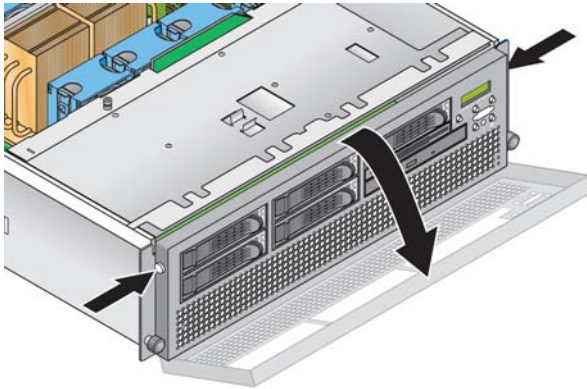

FIGURE 5-13 Removing the Front Bezel
2. Remove the front bezel from the server by pressing in on the rubberized buttons on each side of the bezel, then swinging the bezel top downward (see FIGURE 5-13).